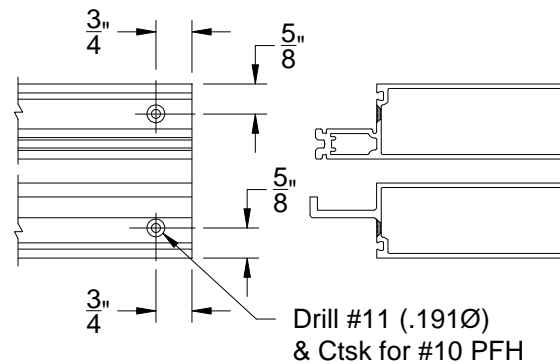

FIGURE 44
- 3.30 Fabricate horizontals per FIGURE 44. Drill #11 (.191Ø) holes at each end for #10 Phillips Flat head fasteners.